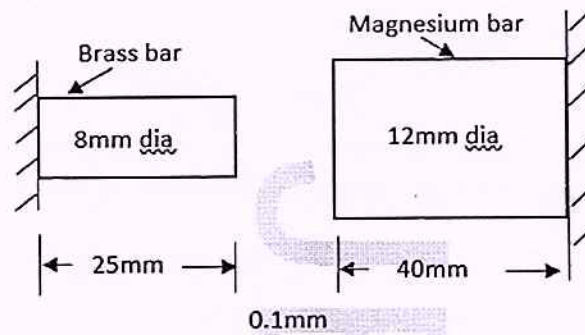

Fig.3
- 13 A bimetallic thermal control made of brass bar of 8mm diameter and magnesium bar of 12mm diameter is as shown in Figure 3. The bars are so arranged that the gap between their ends is 0.1mm at room temperature. Find the temperature increase above the room temperature at which two bars just come in contact. Also find the compressive stress in magnesium bar when the temperature increase is 320°F. 14